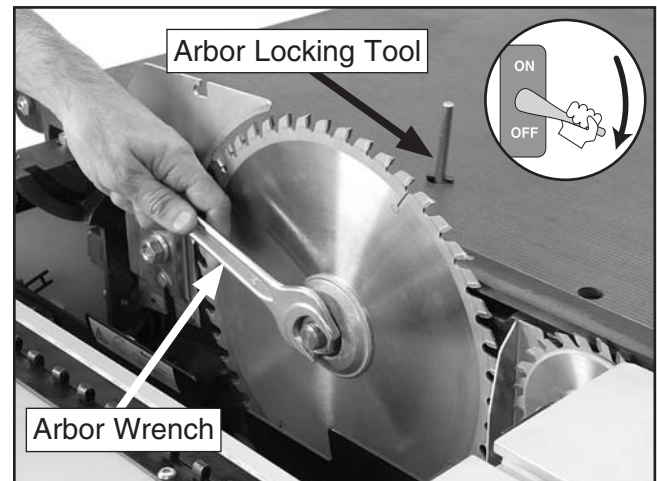

Figure 51. Replacing the main blade.
7. Slide the new blade over the arbor with the teeth facing the right of the saw, as shown in **Figure 51**.
8. Re-install the arbor flange and the arbor nut, then tighten them against the blade as shown in **Figure 51**.